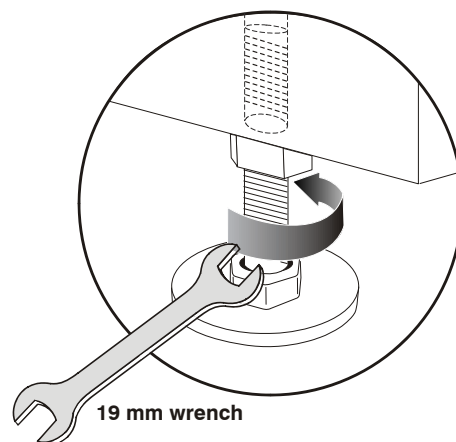

Figure 5-19 Loosen Projector Foot
1. Using a 19mm wrench, loosen the foot lock nut (**Figure 5-19**).